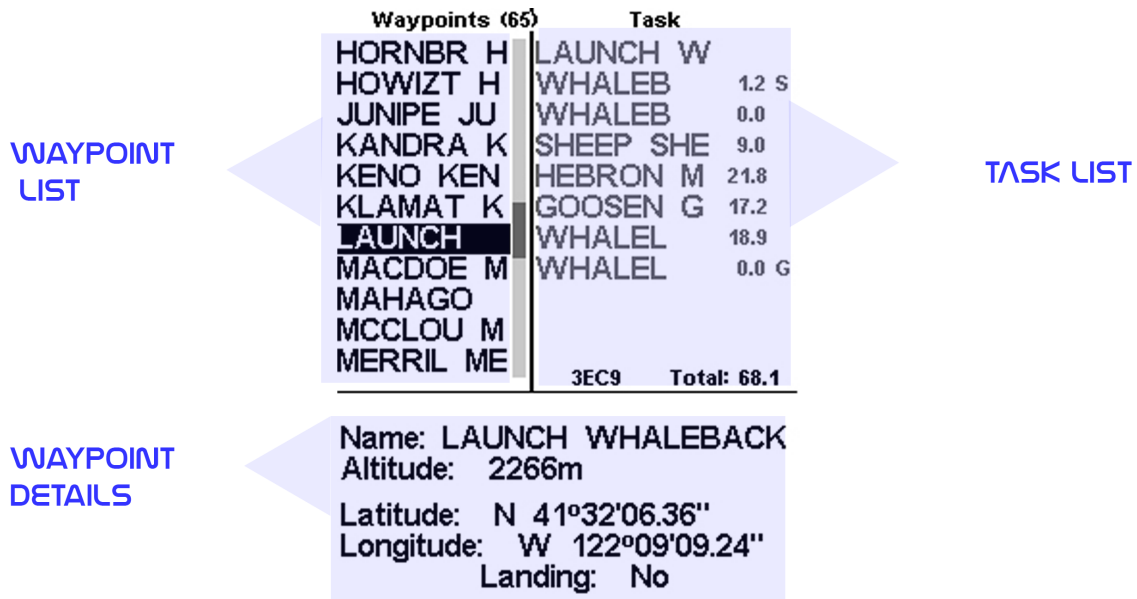
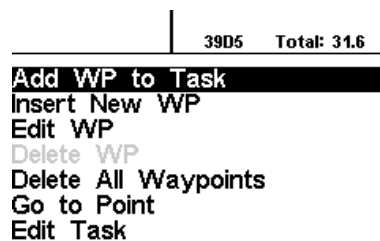

Figure 4.2: Waypoints and TaskScreen
Figure 4.3: Waypoints Action Menu
The Waypoints/Taskpage allows the user to manage waypoints, and define a route/task. As shown in Figure 4.2, the page is divided into 3 areas, namely the waypoint list (WL); Tasklist (TK) and selected waypoint details/options list (DO). The DO area can change according to which submenu you are in. Specifically, it can show the selected waypoint data, or a list with possible actions for the waypoints. Entering the page activates the WL area. At the top of the page next to the title Waypoints, is the total number of Waypoints stored in the LIVE SD instrument¹. The first waypoint on the list appears highlighted, and the corresponding data of the selected waypoint is shown in the DO area. As the cursor is moved to a different waypoint so the data changes matching the newly selected waypoint. If the waypoints list is empty a list of available actions is shown in the DO area. Since no waypoint exists only the *Insert new Waypoint* action is available. Pushing the ENTER key when a waypoint is selected activates the waypoint actions menu (WAM). A list with the available actions is shown in the DO area Figure 4.3.
Available WAM options appear in black, otherwise in grey. For example, in Figure 4.3 the option *Delete WP* is not available because the Waypoint list is empty.